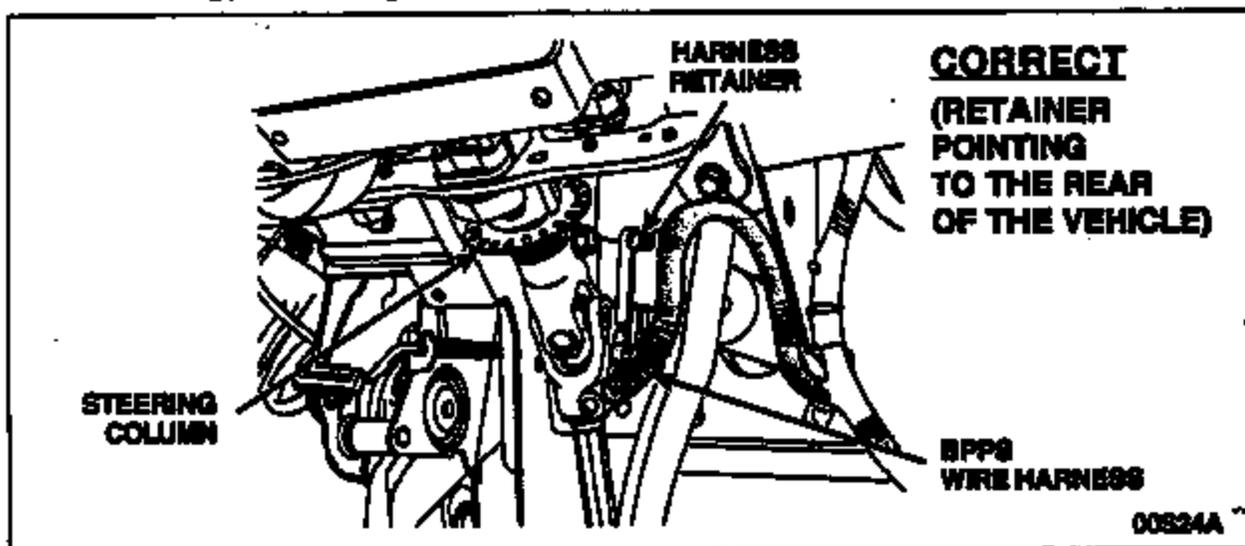

FIGURE 1
2. Inspect the wiring harness to see if it is routed properly. See Figures 1 and 2.
- a) **CORRECTLY ROUTED HARNESS:** The harness retainer (which secures it to the switch) will be installed from the front toward the back and the harness will be routed away from all steering column rotating parts. See Figure 1.
4. If the harness is routed incorrectly but there is no damage to the harness, detach the retainer from the switch, reposition the wiring away from the steering column and reattach the retainer from the front toward the back. See Figure 1 for proper routing. Reinstall the shrouds and return the vehicle to the owner.